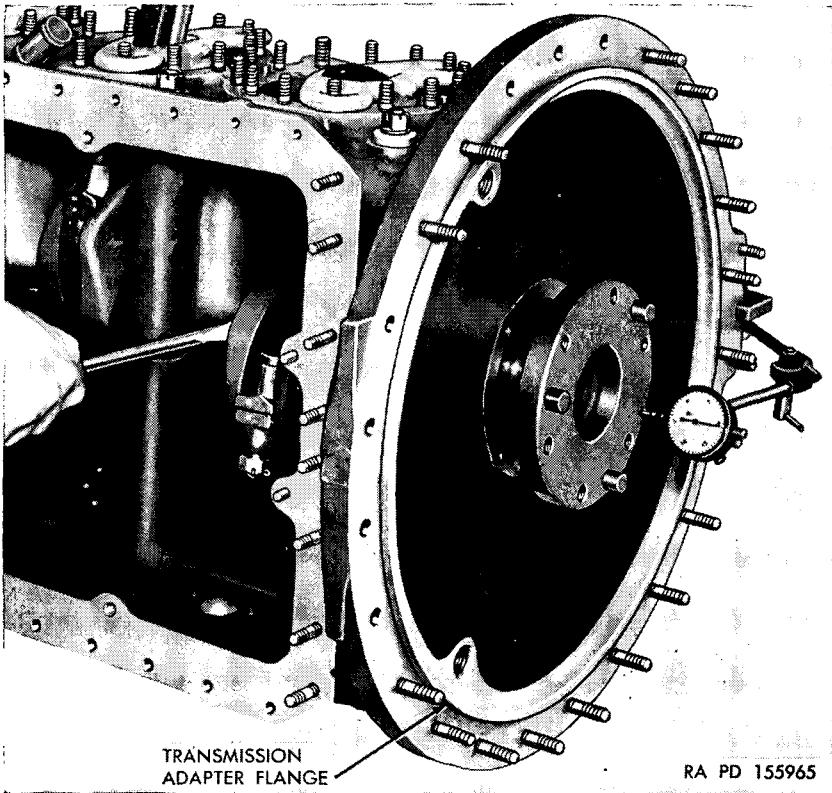

Figure 95. Checking crankshaft end play.
*c. Check Crankshaft End Play* (fig. 95). Install a dial indicator to the flywheel flange. Insert a pinch bar or large screw driver between the crankshaft counterweight and the main bearing web. Pry the crankshaft through its limits of end play. End play should be 0.008 to 0.012 inch for new parts and 0.008 to 0.017 inch for reconditioned parts. If end play is not within these limits, disassemble the crankcase and install a new thrust main bearing.
*d. Crankshaft Oil Seal.* The crankshaft oil seal with spring assembly (CC) should be inserted in the recess in the crankcase, with the parting line of the seal staggered so it will not be on the split line of the crankcase (the flat face is away from